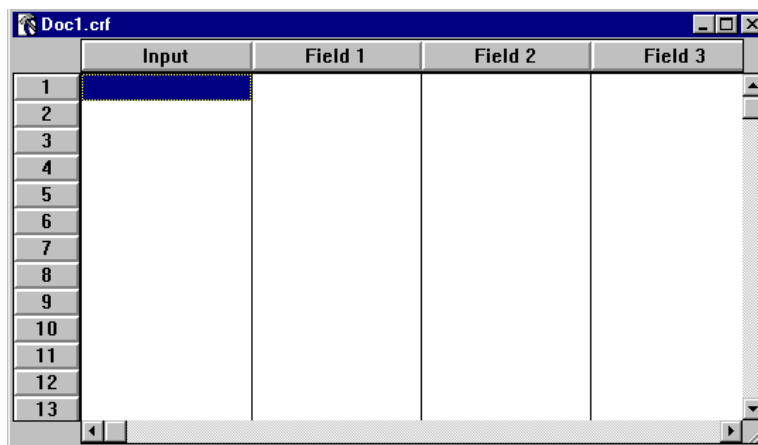

Figure 1-30 CRF Window
2. A new CRF window (Figure 1-30) opens. Keys are entered in the Input column and descriptions are entered in the Field columns. In this example, we will use one description field per key.